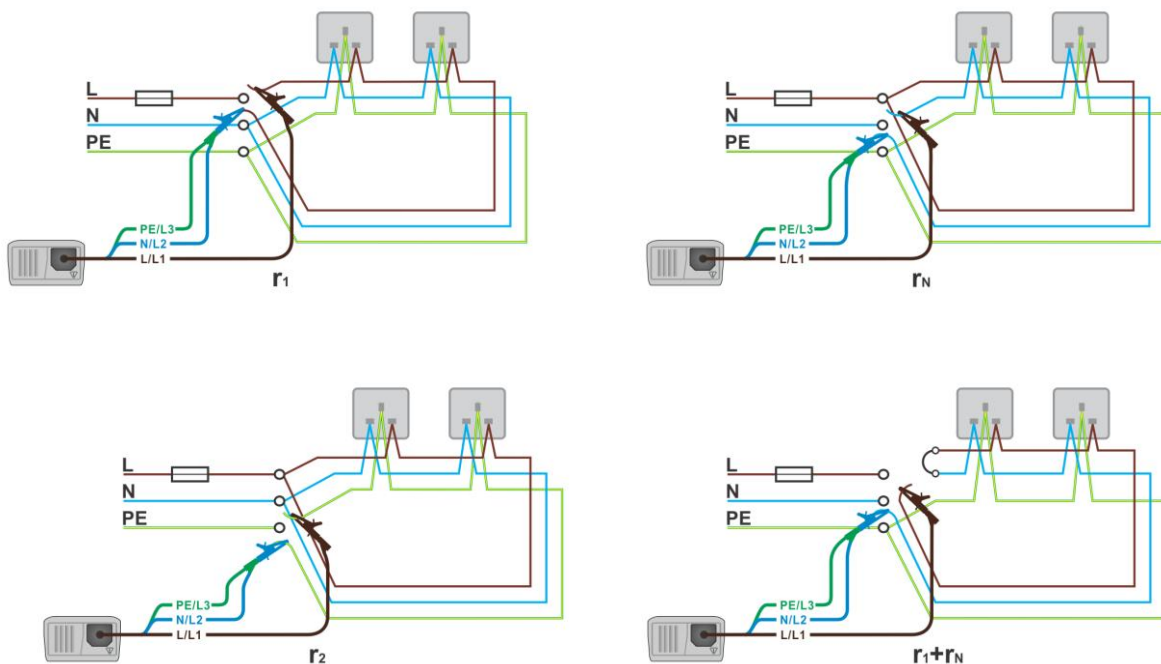

Figure 5.9: Connections for testing the r_1 , r_N , r_2 and R_1+R_N sections of the wiring in ring circuits
- ❑ **Connect** the test leads to the appropriate PE wiring (see *figures 5.9 and 5.10*).